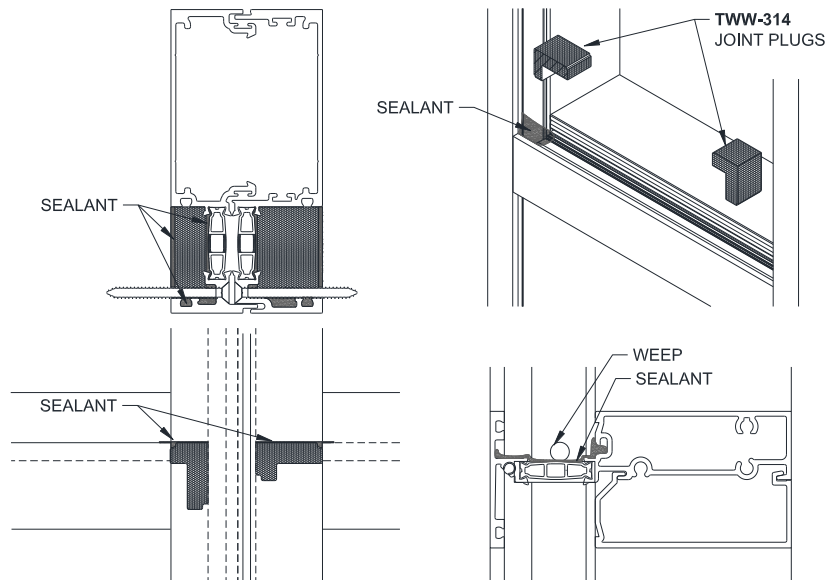

Figure 84: Joint Plug Installation and Sealing
- 25.2 At Split Mullions, install Joint Plugs. Apply Sealant to one end of **TWW-314** Joint Plug and position at the end of the Horizontal. Rotate as needed for the deep and shallow pockets. Thoroughly coat the Joint Plug on all sides in contact with the Mullion. Insert into the glazing pocket flush with the top of the Horizontal. Be sure to keep the weep hole free of Sealant to ensure drainage. Reference *Figure 84*.
- 25.3 Seal the small opening at the front of the Vertical to dam the area completely, as shown in *Figure 84*.